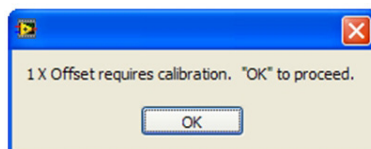

Figure 6.5
5. Next, the calibration software determines if the zero reading is within desired limits or not. If zero reading is within desired limits, then the software displays a message saying that calibration is already within specifications. If the zero reading is not within the desired limits, it displays a message as shown in Figure 6.5.
- Next, the calibration software determines if the zero reading is within desired limits or not. If zero reading is within desired limits, the software displays a message saying that calibration is already within specifications. If zero reading is not within the desired limits, it displays a message similar to that in Figure 6.5.